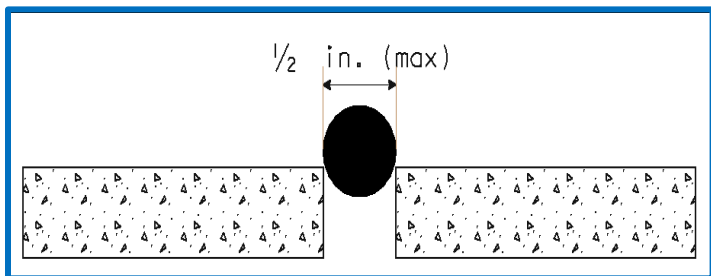

Figure 7 Surface Openings
- On pedestrian access route joints and gratings, surface openings must not permit passage of a sphere larger than  $\frac{1}{2}$  inch. Place horizontal surface openings so that the long dimension is perpendicular to the dominant direction of travel. (See Figure 7.)